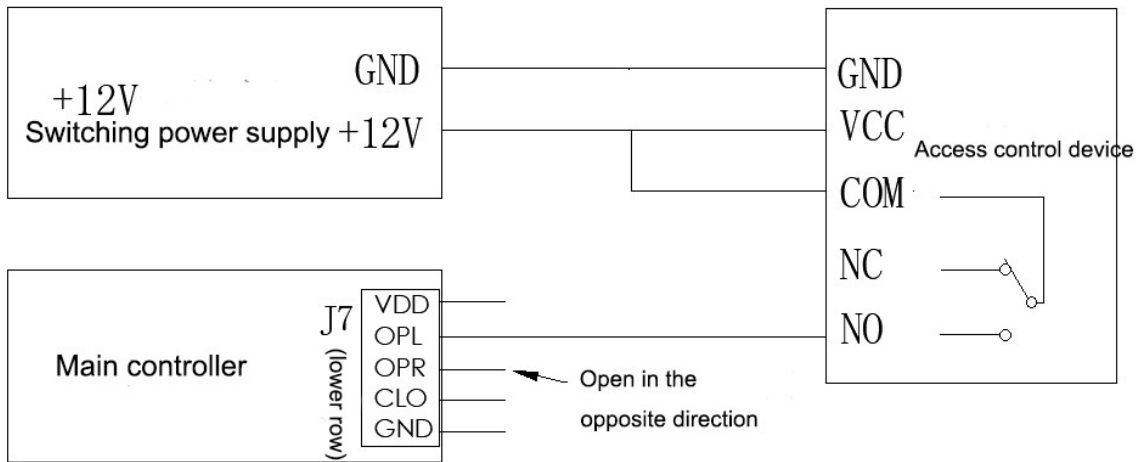

Figure 5-2 Wiring Diagram of Access Control Equipment 2
(2) The power supply reserved on the main control board is 12V/3A. When one Z3319C is connected to only one of our face recognition devices, it can be powered by the main control board. When one Z3319C is connected to two face recognition devices, an additional switching power supply is required, and wiring should be carried out according to Figure 5-2.
(3) For non-company access control devices, it is strictly prohibited to use the main control board for power supply. A separate third-party power supply must be provided.